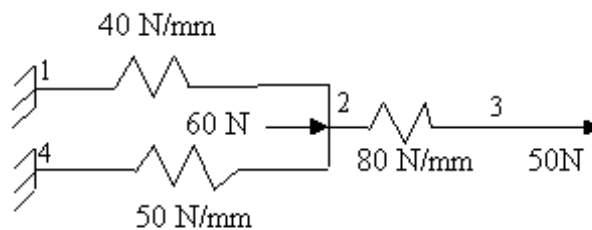

Figure 1:
- (b) Determine the displacements of nodes 2 and 3 of the spring system shown in figure 1 below, by potential energy method. [4+12]